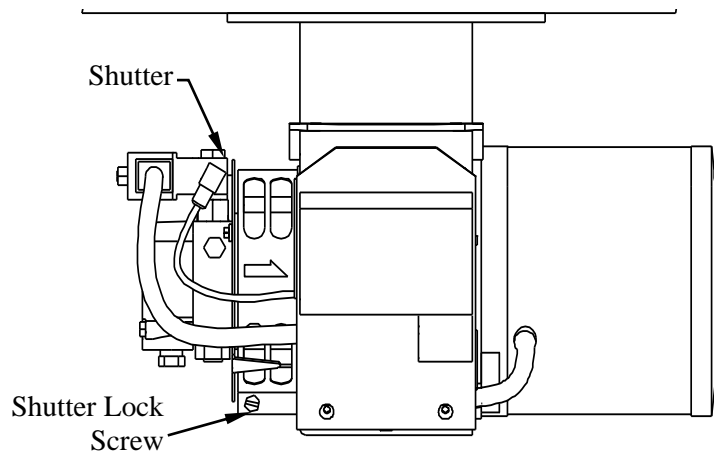

Figure 14
- a. Locate the shutter as shown in Figure 14 below. The shutter is a thin circular metal plate located on the outside of the air band. The shutter adjusts independently from the air band and is used to fine-tune the amount of intake air.